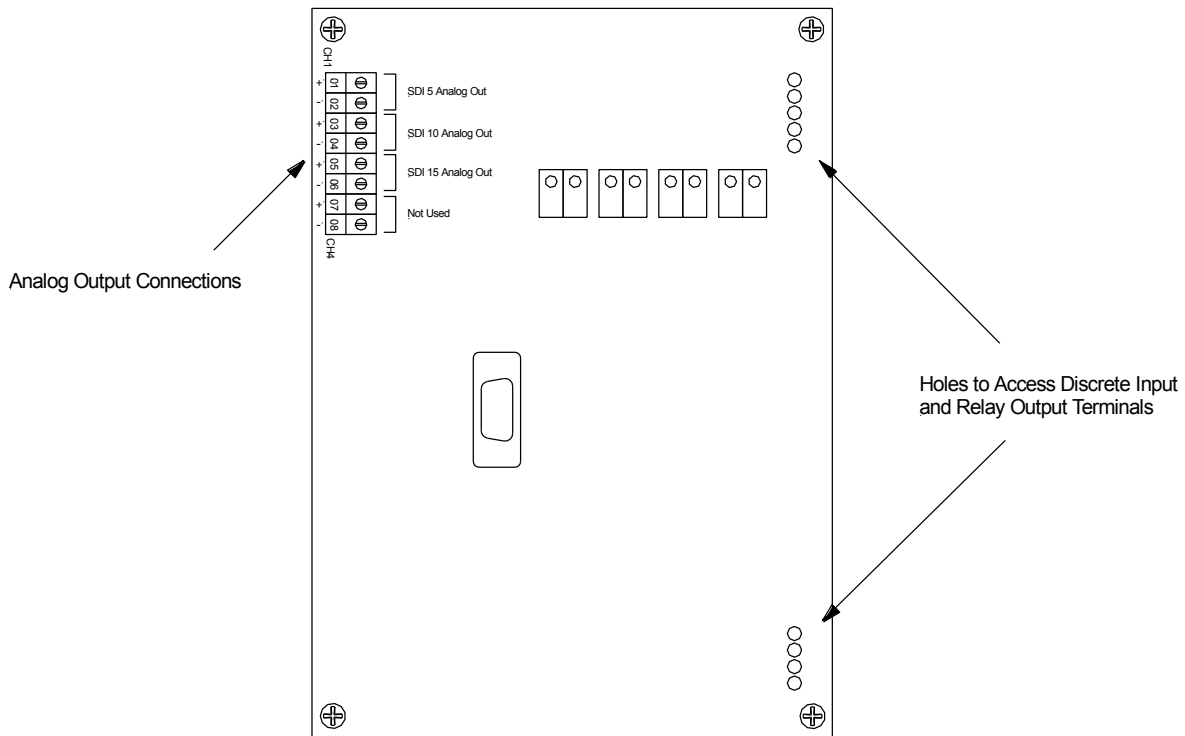

Figure A-1. Overall View of Analog Output Board
**Mounting** The analog output board is installed at the factory and is mounted on top of the main CPU board of the EZ SDI™. Access to the terminal blocks on the CPU board for relay outputs and discrete inputs is gained by means of access holes provided in the analog output board (see Figure A-1).